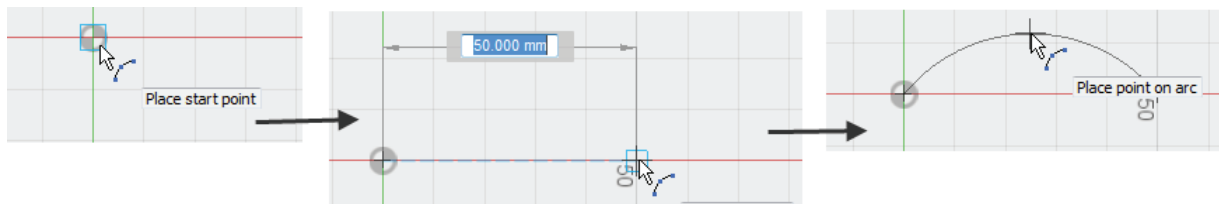

Figure-18. Creation of 3-point arc
- Click on the screen to specify the start point of the arc; refer to Figure-18.
- Click on the screen to specify the center point of the polygon; refer to Figure-18. You will be asked to specify radius of reference circle.